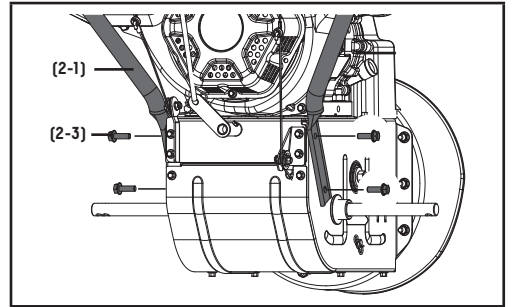

Figure 2
1. Attach the lower handle (2-1) onto the unit body with bolts (2-3) (Fig. 2). Repeat on the other side.